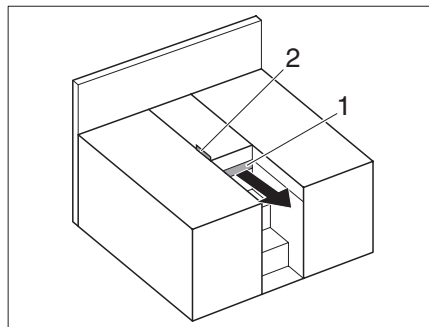

Fig. 104 Single beds
- Detach retaining strap (Fig. 104,2) and pull out extension (Fig. 104,1).
- Slide in the pull-out (Fig. 104,1) and attach the retaining strap (Fig. 104,2).